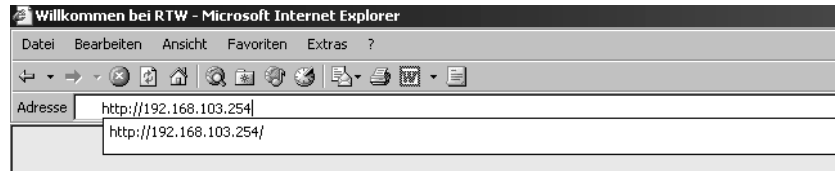

Fig. 8-24: Entering the IP-Address
1. Start your internet browser and enter `http://192.168.103.254` in the address field (see Fig. 8-24) followed by the hit of the return (Enter) key.